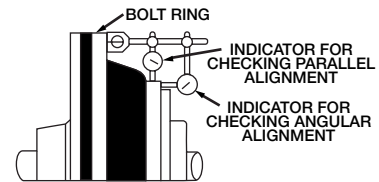

Fig. 3
- 5. Check Shaft Alignment:** Although shafts may be perfectly aligned at installation, some parallel and angular misalignment usually develops in usage because of shift of the driving and driven units. Check both parallel and angular alignments by mounting indicators near the O.D. of the flange as shown in Fig. 3 and rotate the coupling thru 360°. For good installation neither indicator reading should exceed the value shown in column "D" in Table 1. Both alignments should be rechecked after any repositioning.